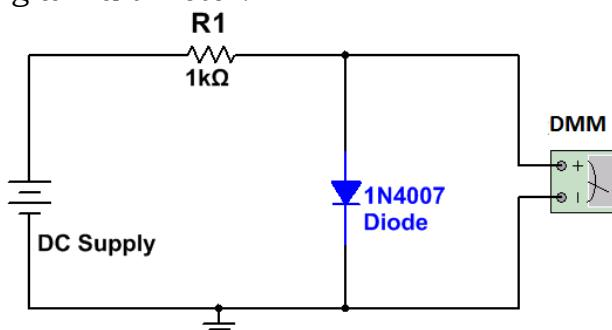

Fig. 1
1. Bias a diode as shown in Fig. 1.